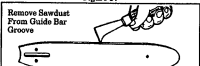

Figure 38
- c. Remove sawdust from guide bar groove periodically with putty knife or wire. Figure 38.